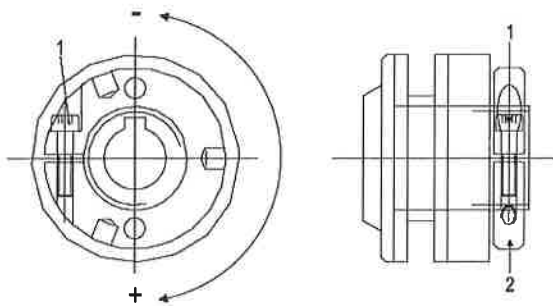

Figure 16-7: sliding clutch on door motor
- Open the Hexagon screw 1 (Figure 16-7).
Rotate the tension screw 2 (Figure 16-7) on the sliding clutch by approx. 1/8 turn clockwise.
Tighten the Hexagon screw 1 (Figure 16-7).
Rotate the tension screw 2 (Figure 16-7) on the by approx. 1/8 turn counterclockwise.
Tighten the Hexagon screw 1 (Figure 16-7) .